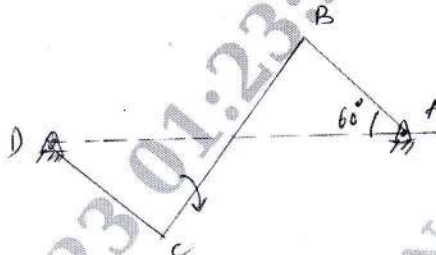

Fig. Q4 (c)
- b. In the four bar mechanism shown in Fig. Q4 (b) torque T_3 and T_4 have magnitude of 3000 Nm and 2000 Nm respectively. Take $AD = 800$ mm, $AB = 300$ mm, $BC = 700$ mm and $CD = 400$ mm. For static equilibrium of mechanism, find the required input torque on the crank.